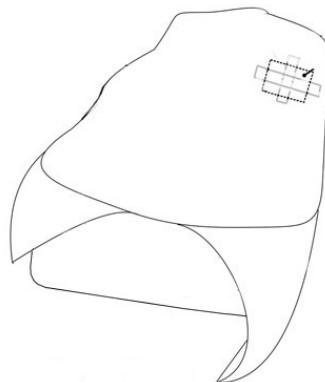

FIGURE 820E
- (a) Line the bottom half of the container with a polyethylene sheet. Refer to **Figure 820E**.